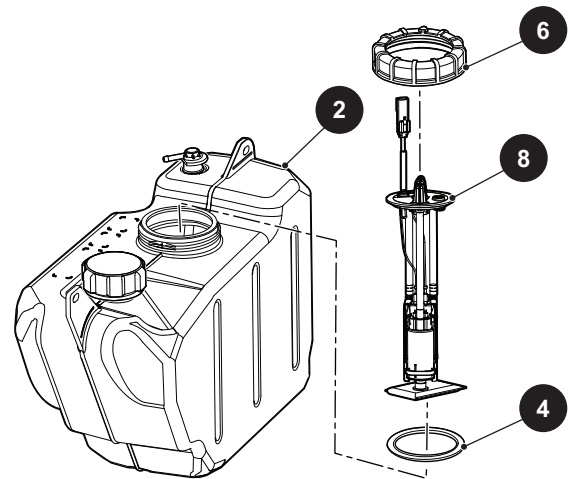

Fig. 4 Fuel Pump
NOTICE: The electric fuel pump, fuel filter, float and fuel gauge sending unit are integrated into one complete assembly (See Fig. 4). If any of these components fail, the complete assembly must be replaced.
2. Remove the pump assembly (3) by removing the hold-down ring (6) and gasket (5) (See Fig. 4).
4. With the fuel pump assembly removed, inspect the hold-down ring seal (4) for damage. Replace as necessary.